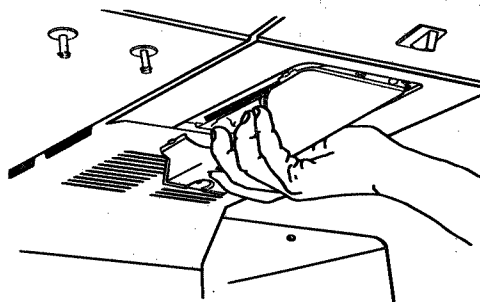

Figure 40
- Unscrew screw at back center of light cover and pull light cover straight down. (There are small supports one each side to hold cover in place that need to release.) See Figure 40.